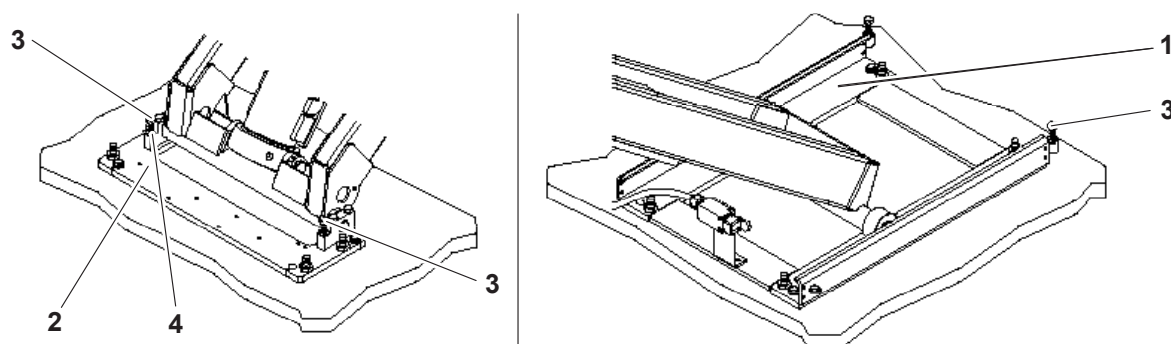

Fig. 2
- Make sure that the bases are perfectly flat, using the roller sliding surfaces 1 (Fig. 2) and connecting rod fulcrum block support 2 (Fig. 2) as a reference: if necessary, adjust levelling screws 3 (Fig. 2), in this case restoring base-floor contact over the entire surface using the appropriate shims (this is to prevent the bases from bending subsequently).